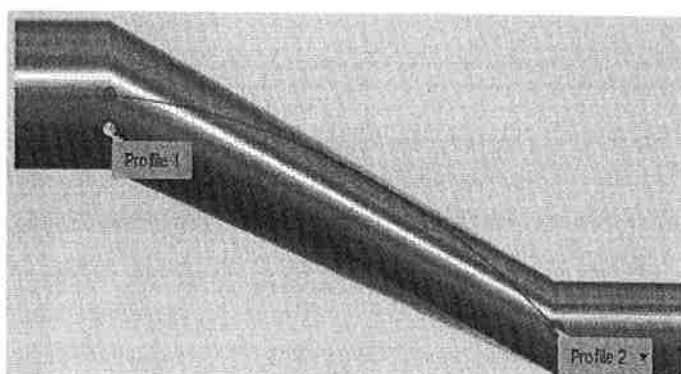

Figure 12-21
4. The new loft geometry is previewed in the graphics window. On the ViewCube, select **FRONT** to reorient the model, as shown in Figure 12-21.